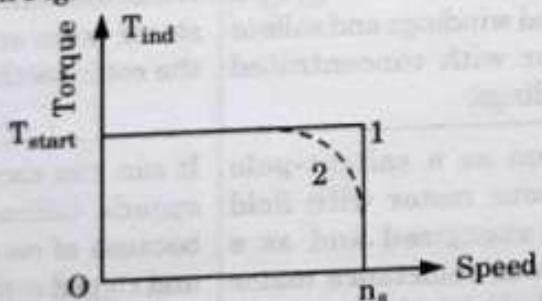

Fig. 2.
1. An ideal torque-speed curve for the hysteresis motor is shown by curve 1 in Fig. 2.